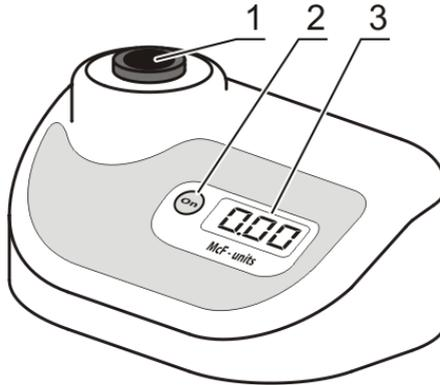

Figure 2. Front view
- Check if the A-16 adapter is in the socket (fig. 2/1). The device is calibrated for operation with the glass tubes 16 mm in external diameter. To use different tubes, recalibrate the unit, see the **Calibration** section of the manual.
5.3. The following indication may be shown on the display (fig. 2/3):
**Note.** The display of **DEN-1B** switches off if the socket is empty for longer than one minute. Press the **On** key (fig. 2/2) to activate the unit.
5.6. Insert the tube into the socket of densitometer (fig. 2/1). The McFarland value for the solution will be shown on the display (fig. 2/3).
- 6.6.2. **Transparent standard.** Display shows □.□□ indication. Insert standard for **0.00** value into the socket (fig. 2/1) of the unit. If the standard for 0.00 value is not available, fill the tube (of the kind that is used for operations) with distilled water. Use the tube as the **0.00** value standard. Press **Install** button to save transparent standard value. Display shows next required calibration value.
- 6.7. **Common calibration rules.** Display shows indication of necessary calibration value. Insert the necessary standard into the socket (fig. 2/1) of the unit and press the **Install** button to save the value for current standard.